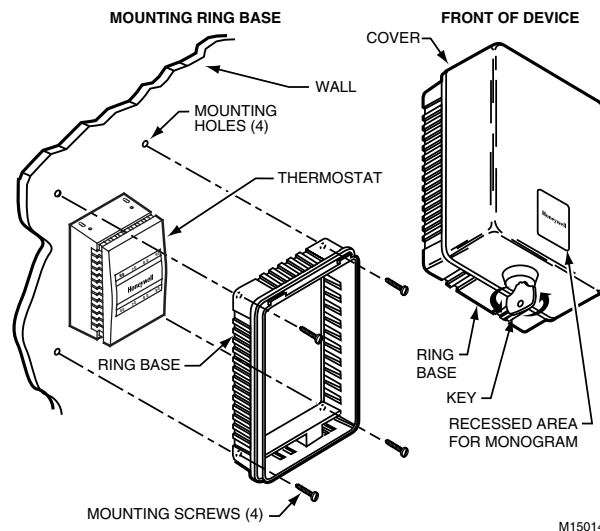
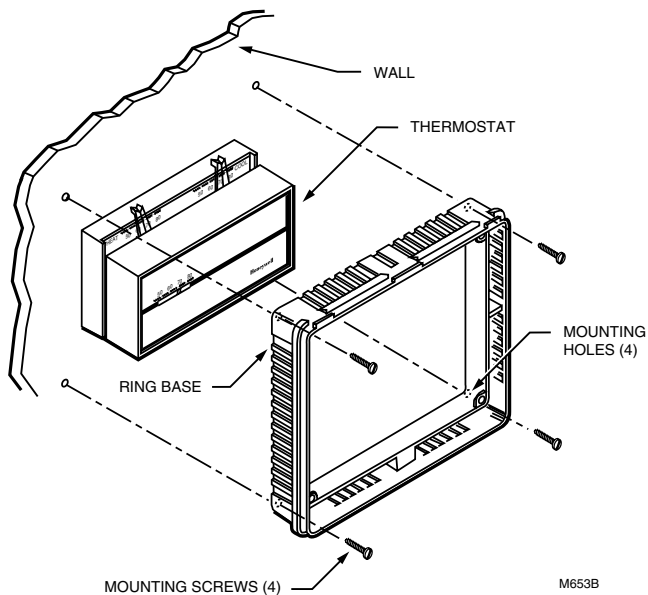

Fig. 5. Mount TG509 ring base only in existing thermostat applications. TG509 guard cover, lock, monogram area.
Fig. 6. Mount TG510, TG511 and TG512 ring bases only in existing thermostat applications.
Mount Thermostat Guard Without Wallplate (Fig. 5 and 6)
- 4 Mount the ring base on the wall using the four no. 6 sheet metal screws and four anchors provided as shown in Fig. 5 for the TG509 and Fig. 6 for the TG510, TG511 and TG512.